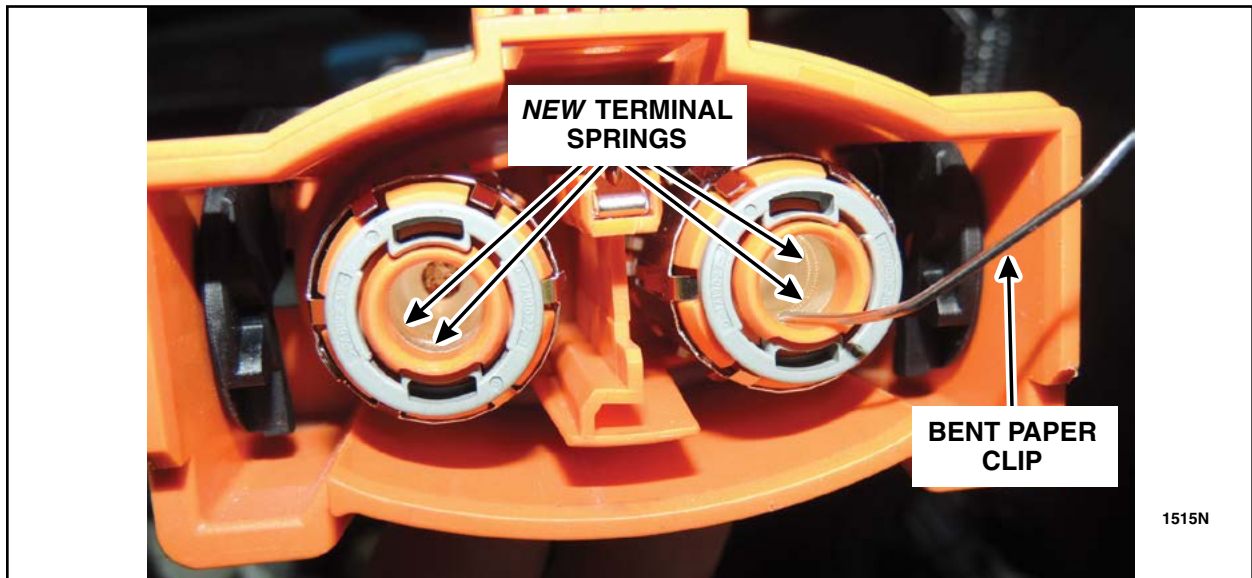

FIGURE 8
7. Install the four *new* TCM connector terminal springs using a terminal release tool, pick or bent paper clip. Place the springs into their correct position and seat in the grooves. See Figure 8.
12. Verify all components remain in the correct position. See Figures 8 and 10.